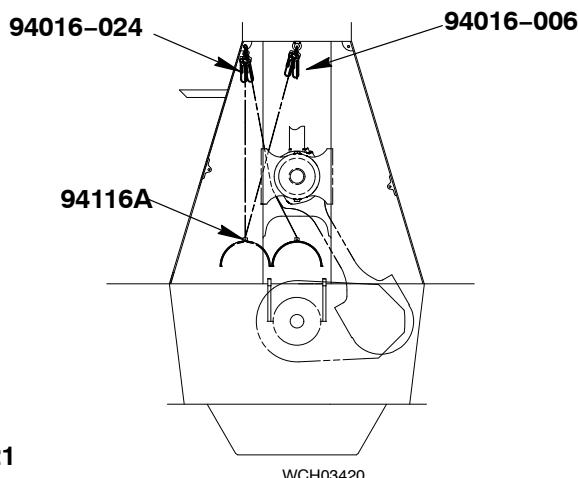

Fig. 21
16) Attach the manual ratchets (94016-006 and 94016-024, Fig. 21) to the gallery and the lifting tool (94116A).